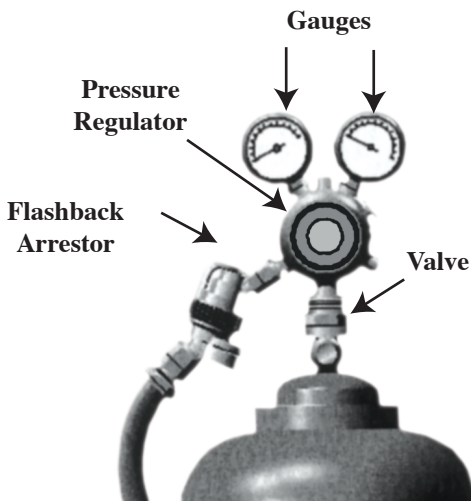

Figure 6. Flashback Arrestor Position on O₂/Acetylene Cylinders
- Flashback arrestors shall be placed at O₂/acetylene cylinder regulators as shown below in Figure 6.